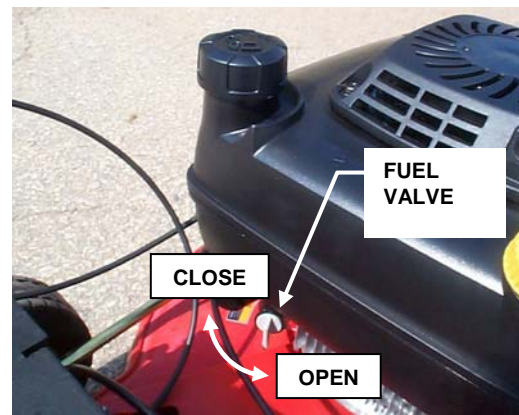

FIGURE 2.4
2. Make sure fuel valve is set to open position. See Figure 2.4.